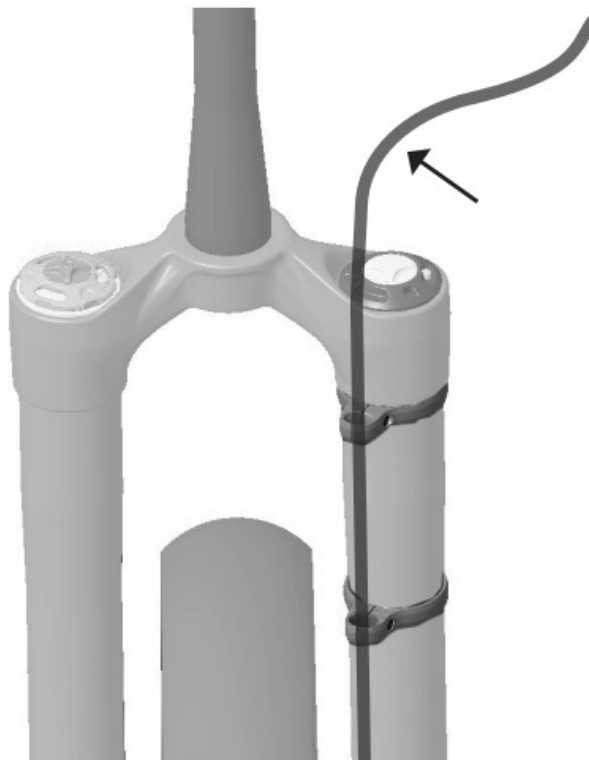
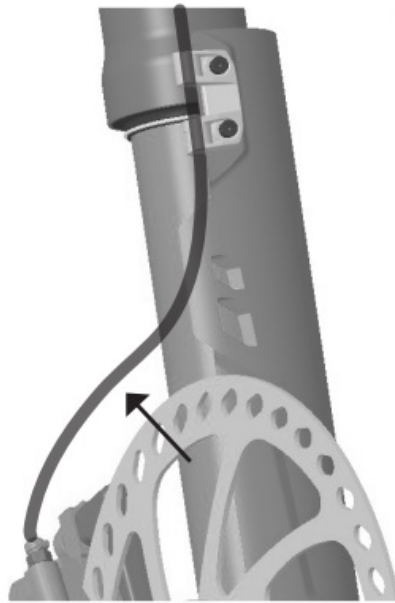

Figure 8: Sufficient hose length above upper brake hose guide
Figure 9: Brake hose arc and clearance over rotor
5. Verify the front brake hose length is sufficient above the upper brake hose guide to the brake lever (Figure 8). Verify there is a smooth arc in the brake hose between the brake hose clamp to the brake caliper (Figure 9). All sections of the brake hose must have an unrestricted path during the compression of the fork.